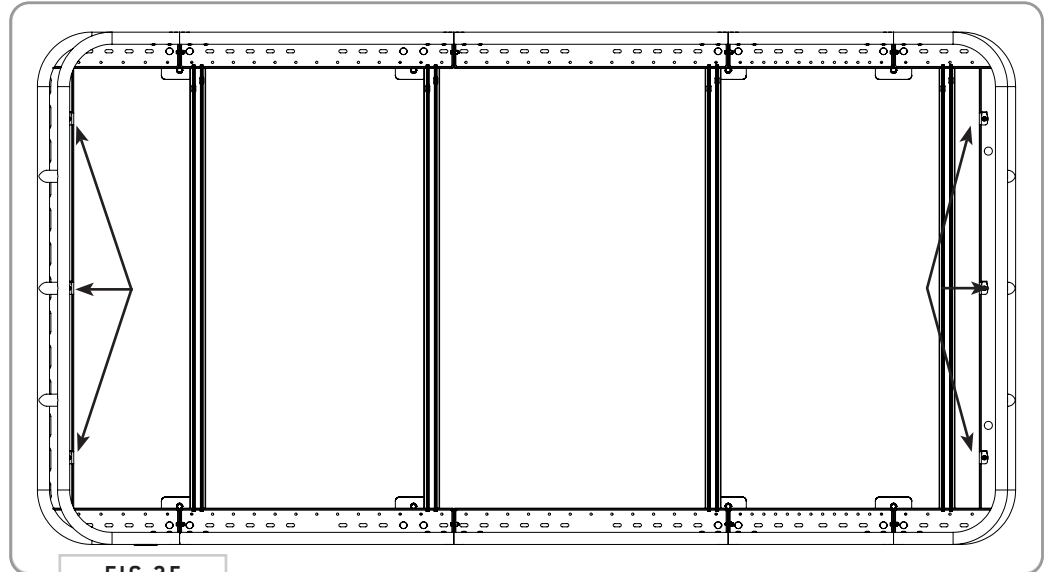

FIG 25
10.1 Attach Clip Nuts to Baskets: Install the **Clip Nuts** to the **Front and Rear Basket** locations as shown in **FIG 25**.